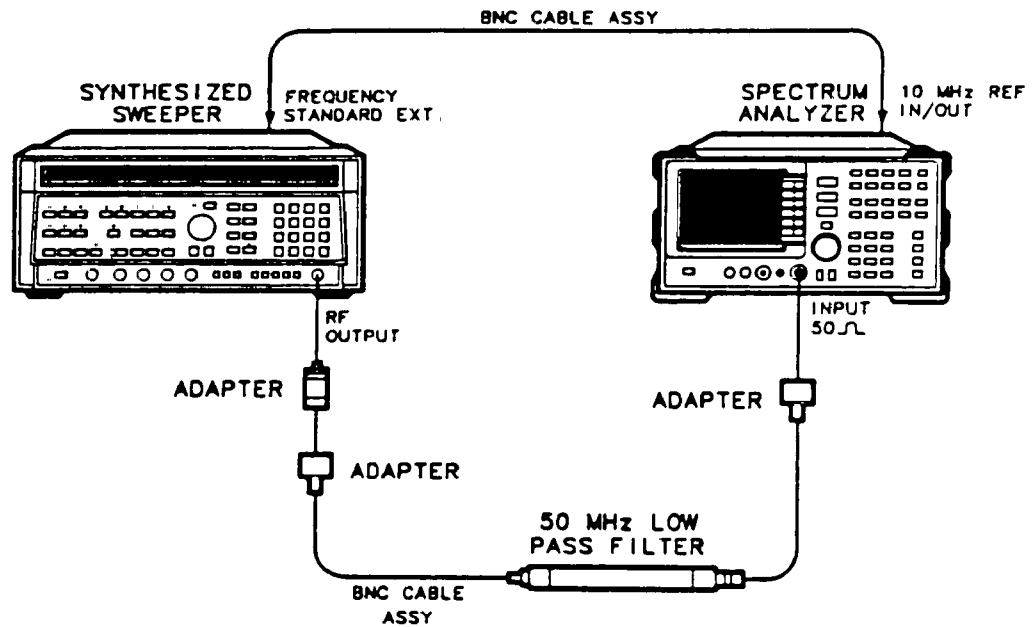

Figure 3-14. Second Harmonic Distortion Test Setup, <2.9 GHz
1. Connect the equipment as shown in Figure 3-14, using the 50 MHz low-pass filter and BNC cable.